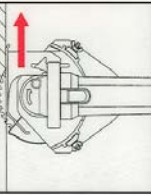
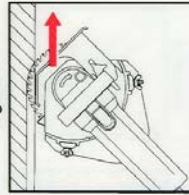

Figure 5
Figure 6
- Depth adjuster accurately controls depth of cut from either straight-on (figure 5) or a 45° angle (figure 6).